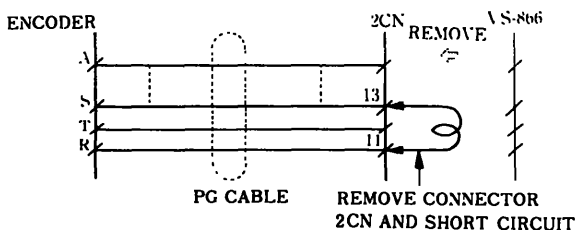

Fig. 6.16 How to Set up by PG Cable
•How to set up (A)
- ① Turn off VS-866 input power supply. Make sure the monitor panel display has disappeared.
- ② Remove PG cable between the encoder and control device.
- ③ Short circuit across R and S pins of the encoder connector for 2 minutes or more to discharge the encoder capacitor charge.
- ④ Wire the cable normally connect the battery to the encoder.
- ⑤ Turn on the control device, output **SEN** signal and perform absolute data reception. If absolute error " **RPB** " is displayed on the monitor panel, start again from ①.
•How to set up (B)
- ① Turn off VS-866 input power supply.
- ② As shown in Fig. 6.16, remove 2CN of control device and short circuit across PG cable by the control device connector for 2 minutes or more.
- ④ to ⑤ Same as (A).